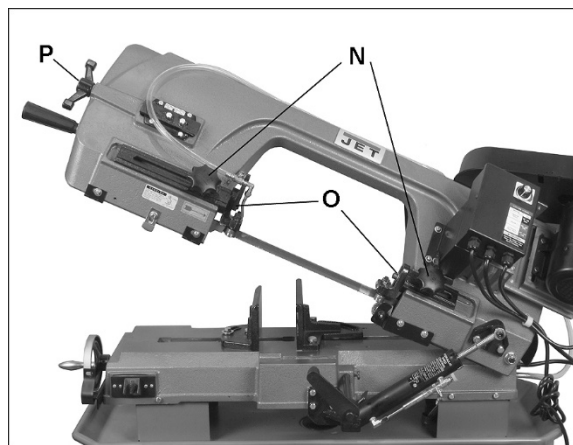

Figure 8-7: Blade Guide Adjustment
- Tension belt by backing off screws (M) with 12mm wrench. Slide motor back into position. Finger pressure on belt between the pulleys should cause approximately 1/2-inch deflection. Do not overtighten belt.
- Tighten hex nuts (K) and turn screw (L) to tighten motor mount plate.
- Loosen knob (N, Figure 8-7) and slide blade guide assembly (O) as close as possible without interference to material being cut. Tighten knob.
- Release tension on blade by turning tension handle (P, Figure 8-7) counterclockwise. Remove blade. (Use gloves when handling sharp blades).
3. If blade is properly adjacent to wheel flange, slide blade guide assemblies as far apart as possible, and tighten in position with knobs (N, Figure 8-7).
4. Push on blade to test tension. Finger pressure should cause approximately 0.004" deflection. Turn blade tension handle (P, Figure 8-7) until proper tension is achieved. For more precise measurement use blade tension gauge (not provided).